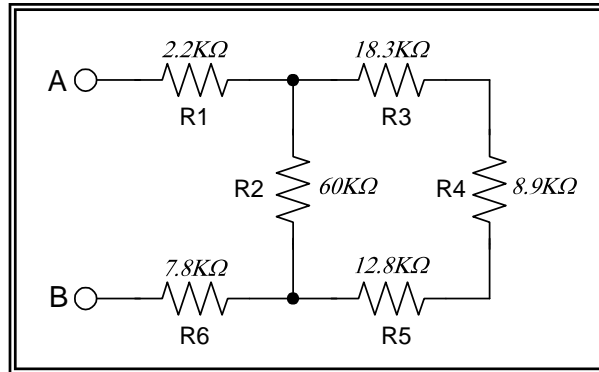

Figure 1
1. Refer to Figure 1. What is the total resistance between Terminals A and B?